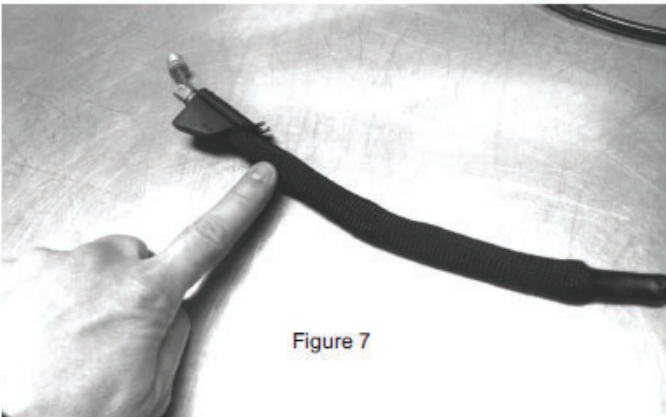
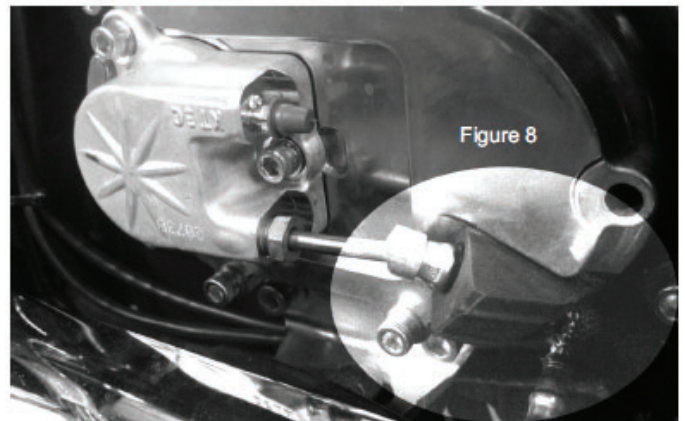

Figure 7
Figure 8
- Refer to your factory authorized service manual for proper clutch line removal. Once the line is free from the bike, carefully remove the stock rubber grommet and protective sheathing from the stock line (Figure 7). Be sure to note orientation of rubber grommet as this will be used on the new extended line. Install rubber grommet and sheathing on the Burly extended clutch line making sure grommet is oriented properly on the line (Figure 8).